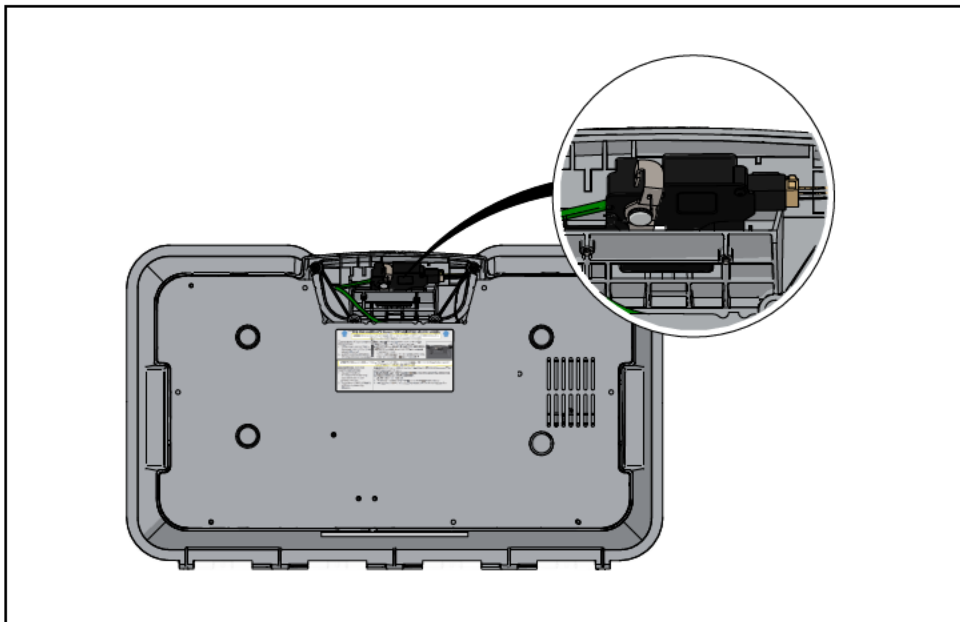

Figure 16 Latch Location
Step 4: With the bottom panel opened, locate the latch assembly seen in Figure 16. The latch is a black device with a silver release lever.